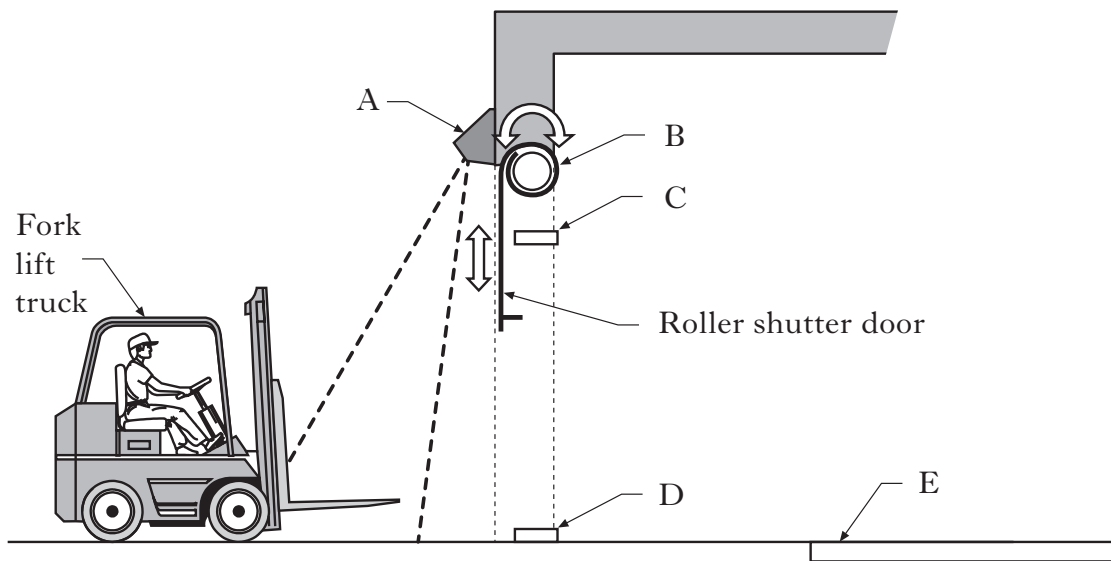

Figure Q13
13. A factory has an entrance control system which uses a roller shutter door. Exit by this door is **not** allowed. The factory entrance, as shown in Figure Q13, is controlled by a PLC (Programmable Logic Controller) with sensors and actuators as specified in Table Q13.
The sensors and actuators have been carefully positioned and are identified by the letters A to E in Figure Q13. One of the sensors, E, is a complete truck length inside the door.
- (i) in Table Q13(a) enter the letters A to E from Figure Q13, indicating the position, against each device and enter one reason for each choice. 4